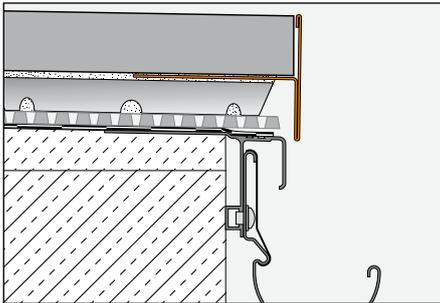

Fig. 3
3.3 If the assembly is constructed with the paver supports Schlüter-TROBA-STELZ-MR (Fig. 3), the BARA-RT / BARA-RTC profile is integrated into the spot of mortar. The finishing profile covers the exposed edge of the cover assembly. The self-supporting pavers are then installed on top of the stilted construction.